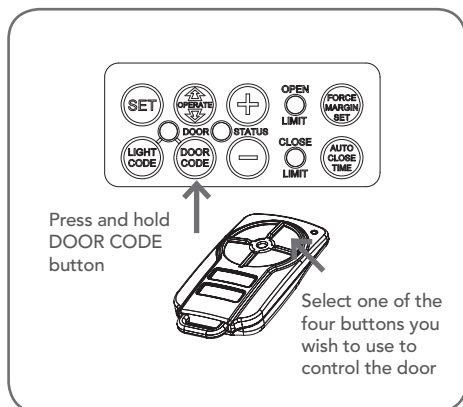

Fig. 8.1
- Press and hold the DOOR CODE button. The DOOR CODE LED will illuminate and beep to indicate the opener is in Code Learn mode. If a valid code is not stored within 15 seconds the opener will exit Code Learn (**Fig. 8.1**).
- Press and hold the transmitter button that you want to control the door for two (2) seconds, pause for two (2) seconds, then press the same button again for two (2) seconds and release.